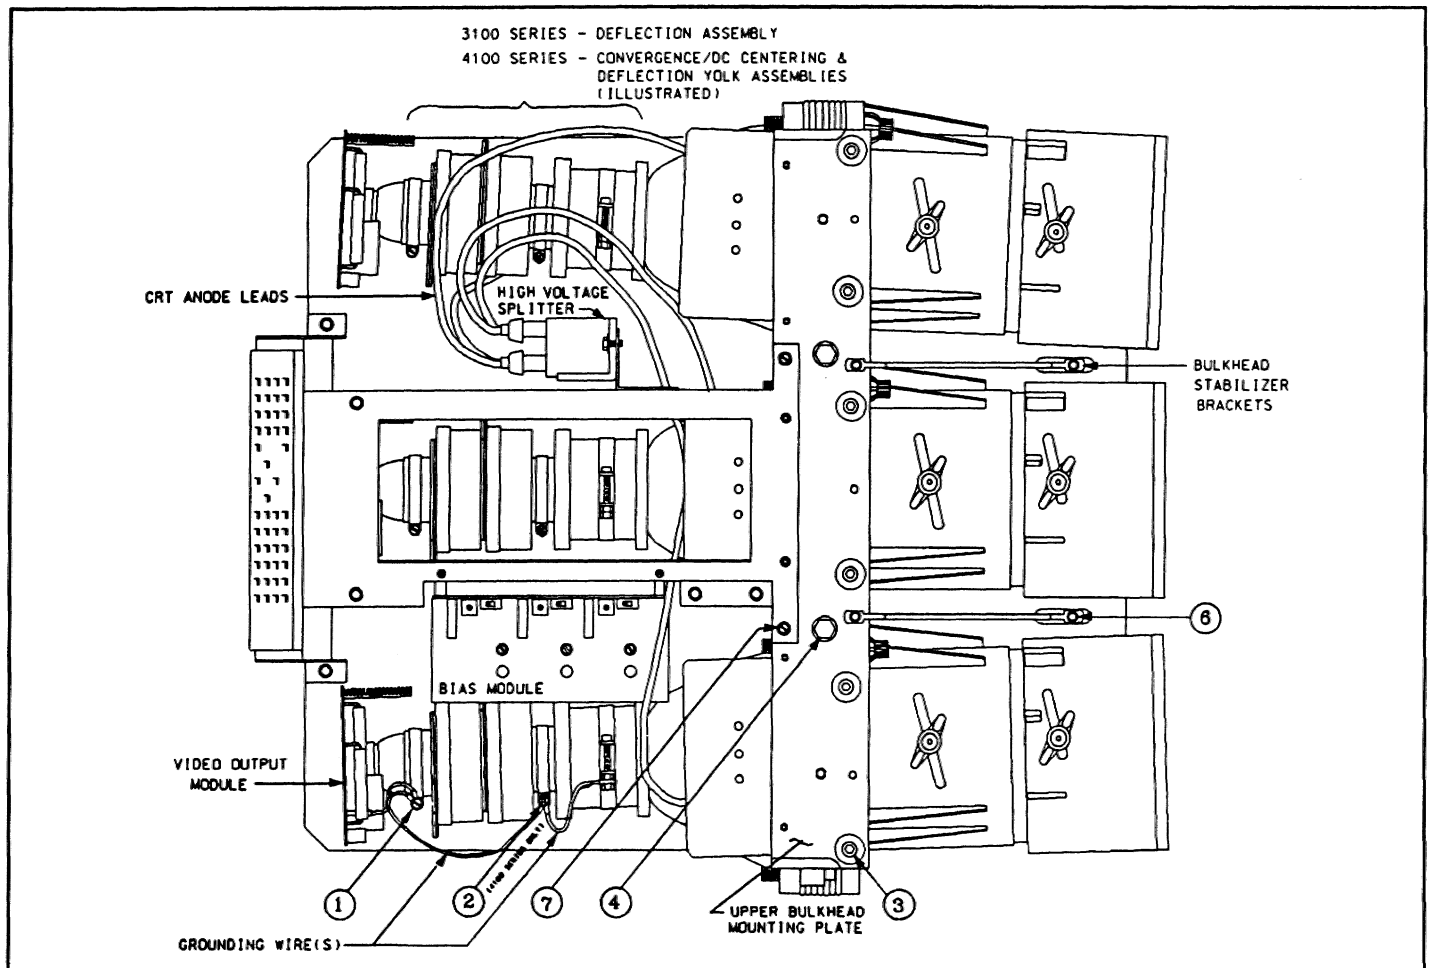
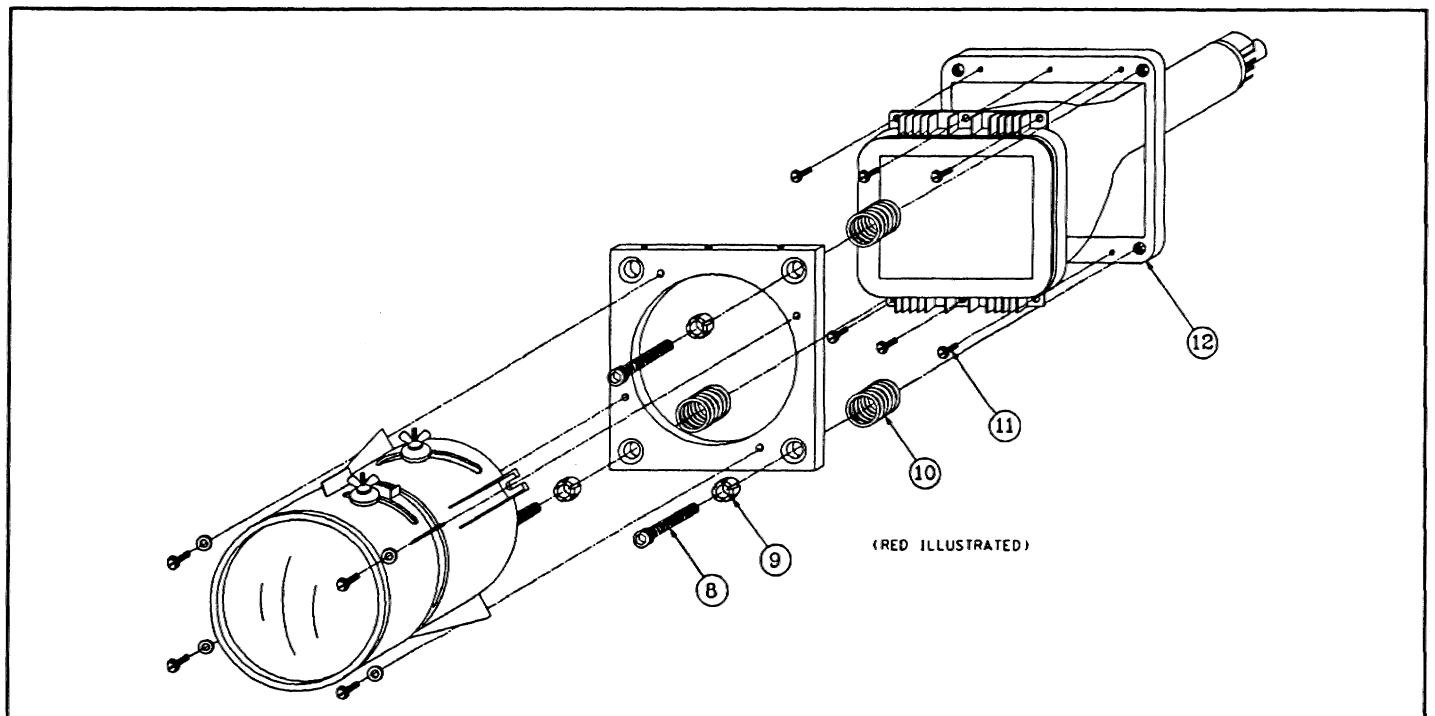

FIGURE 5-15 CRT Removal (A)
FIGURE 5-16 CRT Removal (B)
Loosen the main Deflection assembly clamp which secures the Deflection assembly to the CRT neck. The Deflection assembly (one piece) is similar in appearance, but not exactly as illustrated in Figure 5-15. Slide the Deflection assembly off the neck of the CRT.
Loosen the Convergence/DC Centering assembly clamp (item 1 in Figure 5-15). Next, loosen the Deflection Yoke clamp (item 2). Slide the Convergence/DC Centering assembly and Deflection Yoke assembly off the neck of the CRT. Retain the grounding wires for future re-assembly.
h) Remove the 6 CRT alignment screws (item 3).
i) Remove the 2 bulkhead securing bolts (item 4).
j) Remove the 4 bulkhead stabilizer bracket screws (item 5) for the two stabilizer brackets (item 6).
k) Remove the 2 bulkhead Bias module mounting bracket screws (item 7).
o) With the hex head ball-nose driver supplied in the tool pouch, remove the 3 CRT tilt bolts, swivel bushings and tilt springs (items 8,9 and 10 in Figure 5-16).
p) Remove the 6 CRT mount screws (item 11 in Figure 5-16) from the CRT heat sink (item 12 in Figure 5-16).
- a) Mount the CRT heat sink (item 12 in Figure 5-16) to the CRT with the 6 CRT mount screws (item 11).
- b) Secure the CRT/bulkhead to the lens mounting plate with the 3 CRT tilt bolts, swivel bushings and tilt springs previously removed (items 8,9 and 10 respectively in Figure 5-16).
- g) Mount the Bias module mounting bracket with the 2 screws previously removed (item 7 in Figure 5-15).
- h) Secure each bulkhead stabilizer bracket with the 4 screws previously removed (item 5 in Figure 5-15).
- i) Install the 2 bulkhead securing bolts (item 4 in Figure 5-15).
- j) Screw in the 6 CRT alignment screws (item 3 in Figure 5-15). Do not tighten fully.
Slide the Deflection Yoke assembly and the Convergence/DC Centering assembly as far as possible up the CRT neck. The terminal block on the Deflection Yoke assembly should be positioned downward. Refer to the illustration below. Tighten the Deflection Yoke clamp with the grounding wires connected as shown in Figure 5-15.
With the Convergence/DC Centering assembly against the Deflection Yoke assembly, tighten the assembly clamp (item 1 in Figure 5-15). The leads from the Convergence/DC Centering assembly should be at the 7 o'clock position when facing the CRT from behind. Refer to the above illustration. Ensure the previously removed grounding wires are connected as shown in Figure 5-15.
Remove the Deflection assembly clamp screw to release the grounding wire to the P3 connector on the Video Output Module. NOTE: The Deflection assembly is similar in appearance, but not exactly as illustrated in Figure 5-15.
Remove the Convergence/DC Centering assembly clamp screw to release the grounding wire to the P3 connector on the Video Output Module (item 1 in Figure 5-15). If the Yoke requires replacement, loosen the Deflection Yoke clamp (item 2 in Figure 5-15). Slide the Convergence/DC Centering assembly off the neck of the CRT.
If the Deflection Yoke requires replacement, slide the Deflection Yoke assembly off the neck of the CRT and replace. The Deflection Yoke assembly must be as far as possible up the CRT neck with its terminal block positioned downward. Refer to the illustration below. Tighten the Deflection Yoke clamp with the grounding wires connected as shown in Figure 5-15.
Slide the Convergence/DC Centering assembly over the CRT neck with the leads at the 7 o'clock position (when facing the CRT from behind). Refer to the above illustration. With the Convergence/DC Centering assembly against the Deflection Yoke assembly, tighten the assembly clamp (item 1 in Figure 5-15). Ensure the previously removed grounding wires are connected as shown in Figure 5-15.